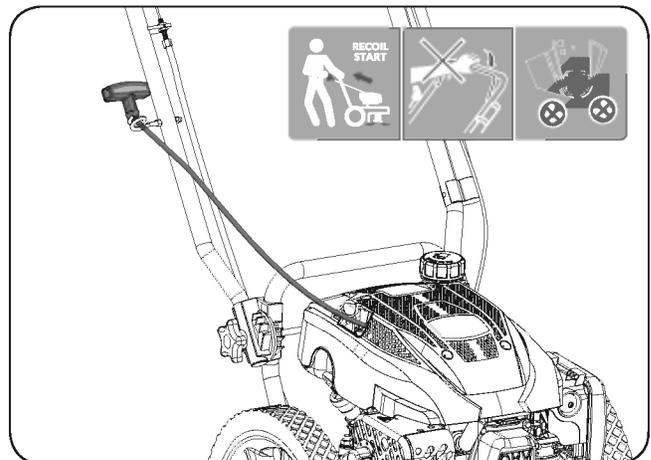

Figure 10
3. Pull the starter grip lightly until resistance is felt, then, briskly pull to syncline upper 30 degrees out. (See Figure 10)